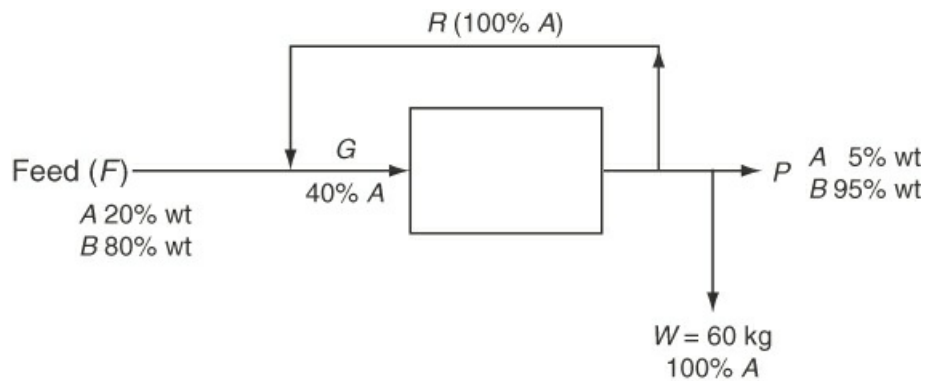

Figure P5.3.2
*5.3.2 Based on Figure P5.3.2, find the kilograms of recycle per kilogram of feed if the amount of waste (W) is 60 kg of A .